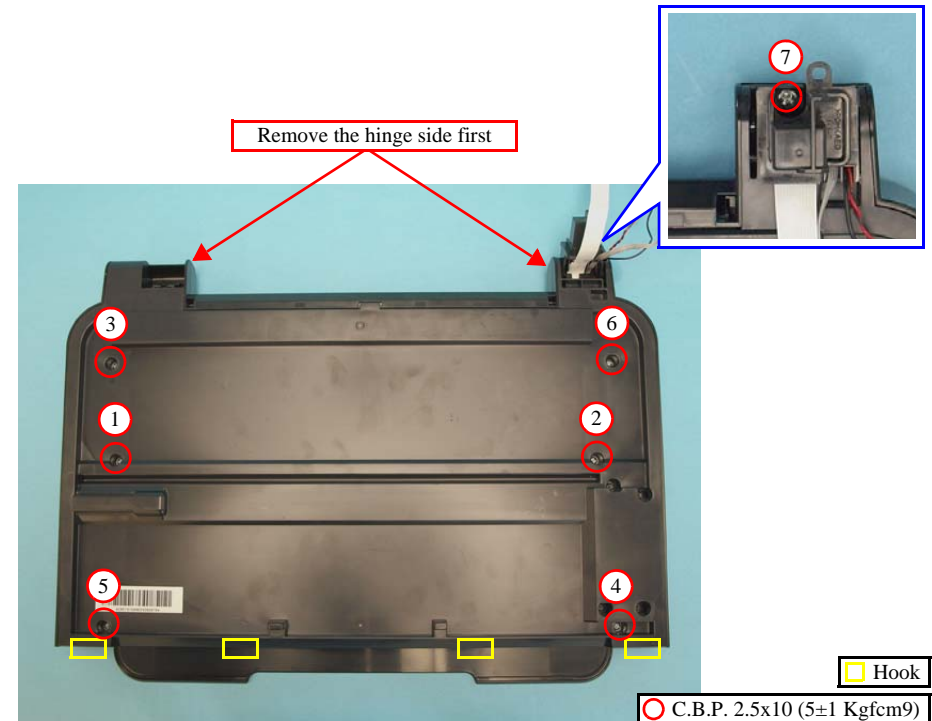

Figure 4-110. Removing the Scanner Housing
- When installing the Scanner Housing, engage the hooks (x4) in the front properly first and then engage the hinge area in the rear. (See Figure 4-110.)
- Tighten the screws in the order given in Fig. 4-110.